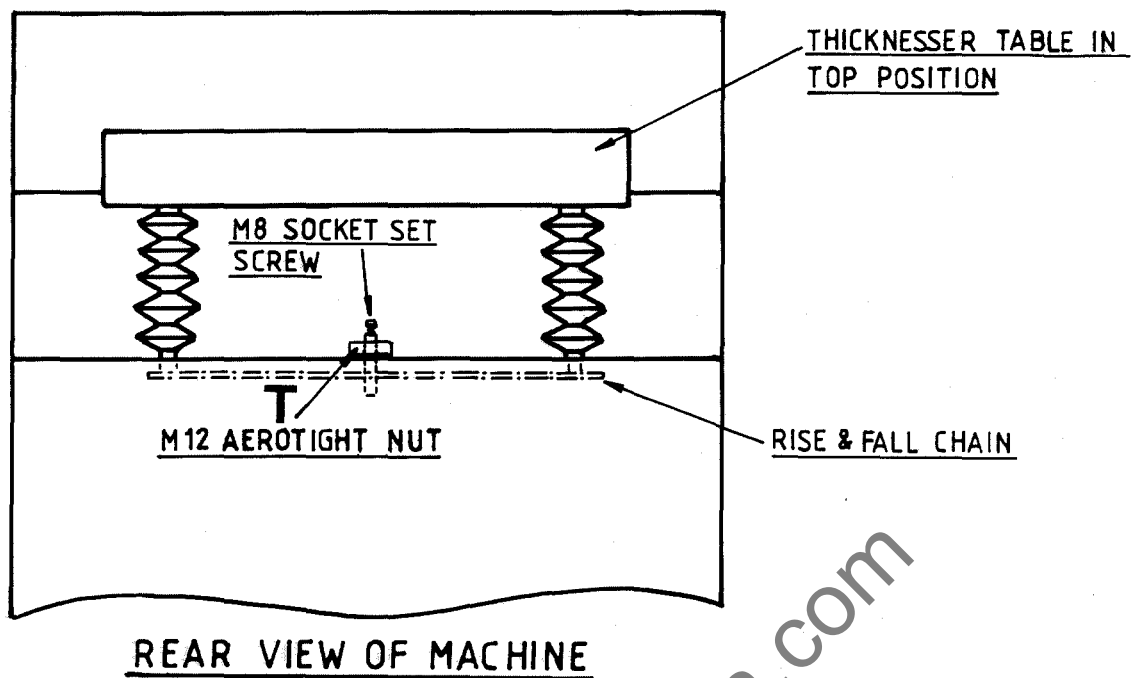

FIG. 24
- c) Loosen M12 aerotight nut 'T' FIG.24 and turn M8 grubscrew.